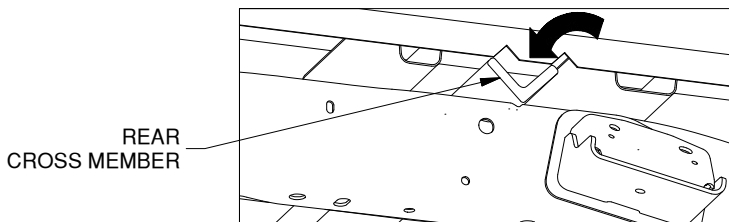

Figure B2: looking into passenger side wheel well.
2. Install the rear cross members. The rear cross member can be installed using the two notches to accept the legs of the cross members. The rear cross member can be identified as the 2" x 2" angle with two cut outs on one of the legs. Slide the angle across the top of the frame using the two notches to accept the legs of the cross member with the leg containing the two cut outs toward the front of the truck. Center the cross member on the top of the frame. Next turn the cross member so that the two cut outs are toward the bed floor and the cross member leg that contains the holes will lay flat on top of the frame, see Figure B2.